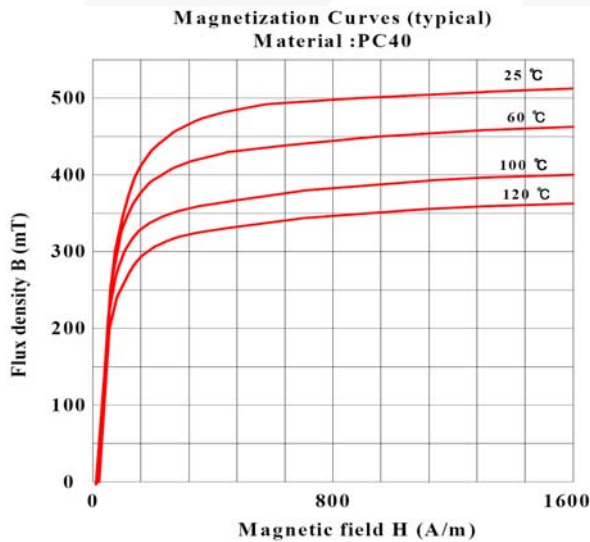

Figure 6. Typical B-H Characteristics of Ferrite Core (TDK/PC40)
The pulse-by-pulse current limit level is included in Equation (19) because the inductor current reaches the pulse-by-pulse current limit level during the load transient or overload condition. Figure 6 shows the typical characteristics of ferrite core from TDK (PC40). Since the saturation flux density (B_{SAT}) decreases as the temperature rises, the high-temperature characteristics should be considered. If there is no reference data, use $B_{\text{MAX}} = 0.3\text{T}$.